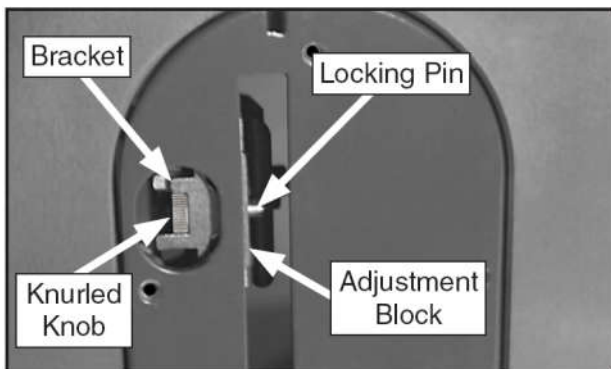

Fig.15:Knurled knob used
- A. reinstall the insert, slide the knurled knob out (see **Fig.15**) and rotate it forward so it engages the upper bracket.